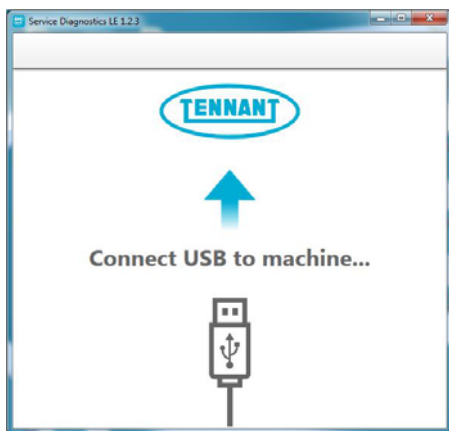

Fig. 5
3. After software start up, the following screen will appear (Figure 5).